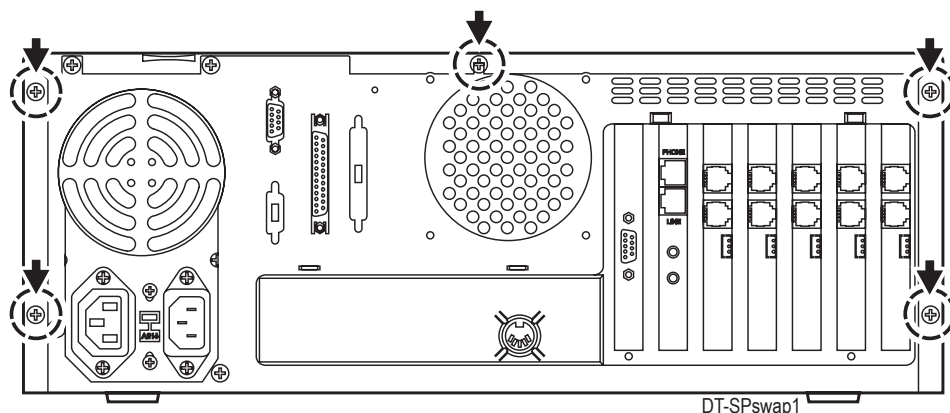

Figure 1
7. From the rear of the cabinet, remove and retain the 5 hex-head screws that secure the cover to the cabinet. See Figure 1.